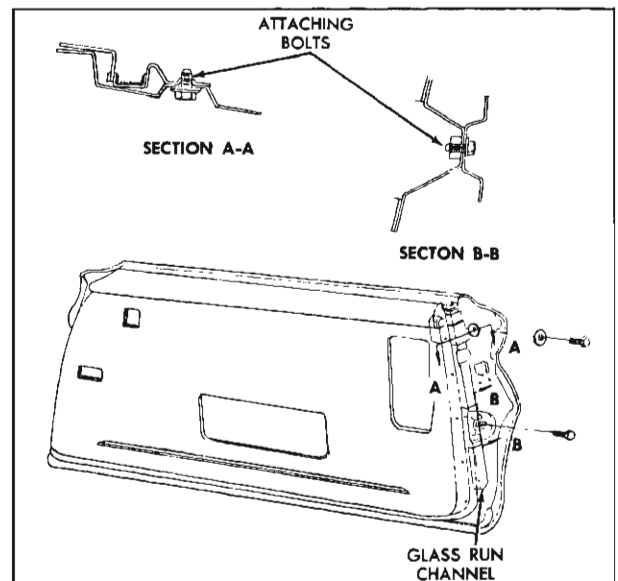

Fig. 12-28 Glass Run Channel—67 Style
4. Remove bolts securing run channel to lock pillar panel and remove run channel from door (Fig. 12-28).